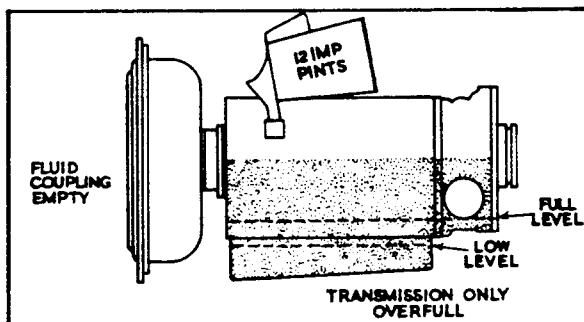

FIG. 1. FIRST FILL-IN.
- (i) Remove the dipstick, and through the dipstick filling orifice, add 12 Imp. pints (14 U.S. pints) of a recommended gearbox fluid. See Fig.1.